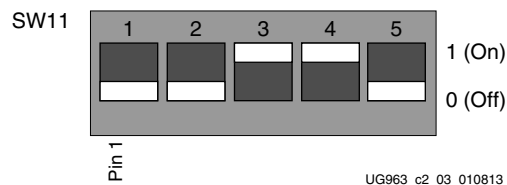

Figure 2-3: SW11 SD Boot Mode Settings
5. Set DIP switch SW11 as shown in Figure 2-3.